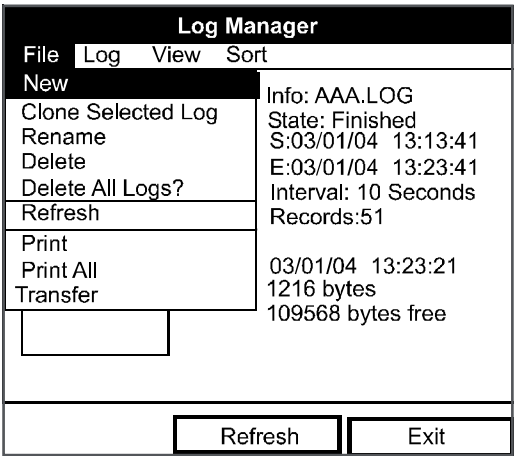

Figure 115: File Menu in the Log Manager
The File Menu allows you, not only to create new logs, but also to copy, rename or delete logs, as well as to print them or transfer them to a PC. To open the File menu from the Log Manager, press the **[MENU]** key and then **[ENTER]**. The screen appears similar to *Figure 115*.
- by scrolling to the New option in the File menu of the Log Manager (as shown in *Figure 115*) and pressing **[ENTER]**.
1. First, select the log you wish to copy in the Log Manager (shown in *Figure 115*).
1. First, select the log you wish to rename in the Log Manager (shown in *Figure 115*).
1. First, select the log you wish to delete in the Log Manager (shown in *Figure 115*).